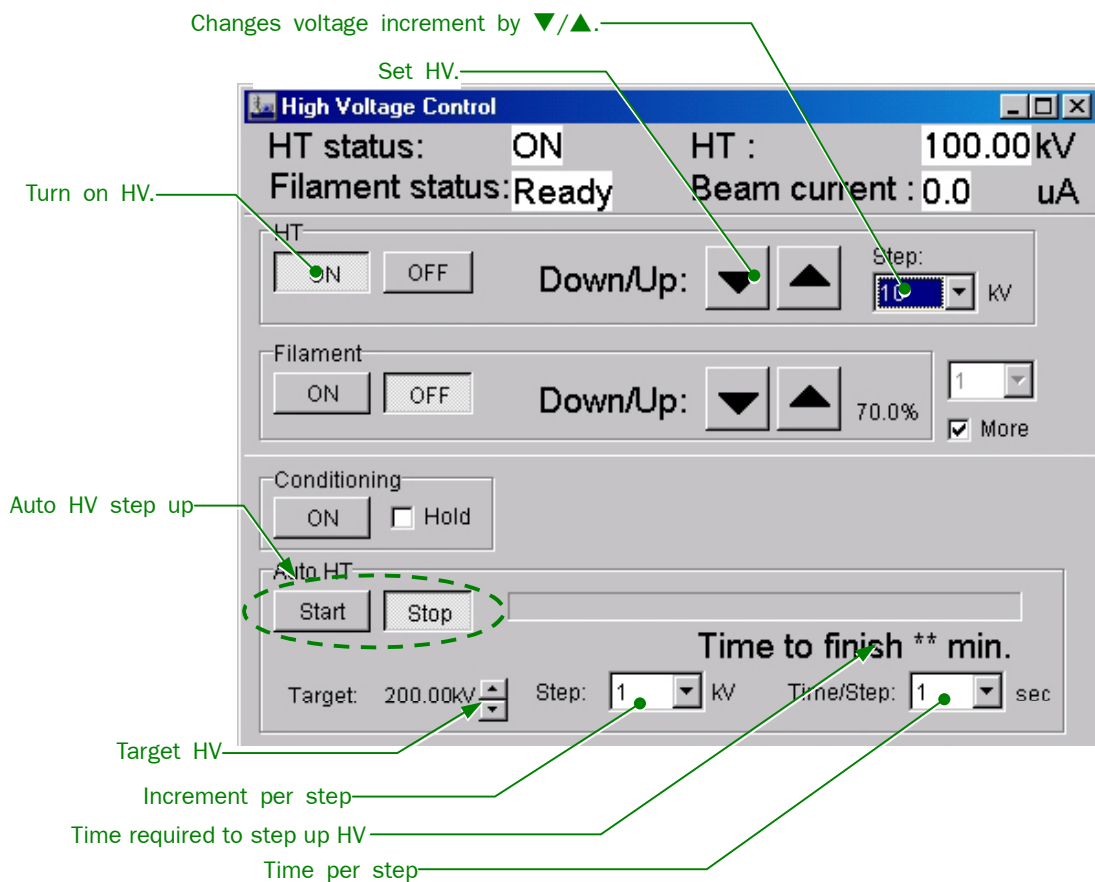

Fig. 5.19 High Voltage Control window(Auto HT stepping up)
1. Click on HT ▼ or ▲ button in the **High Voltage Control** window so that HT: reads, say, 100 kV (☞ Fig.5.19).
- ✍ You can change the increment in voltage using the Step pop-out window (☞ Fig. 5.19).
2. Click on HT – **ON** (☞ Fig. 5.19) to turn on and step up the accelerating voltage.
3. Click on Auto HT ▼ or ▲ button in the **High Voltage Control** window so that Target: reads the target voltage, for example, 200 kV (☞ Fig.5.19).
4. Set Auto HT Step to an appropriate voltage (☞ Fig.5.19).
5. Set Auto HT Time/Step to an appropriate time (sec) (☞ Fig.5.19).